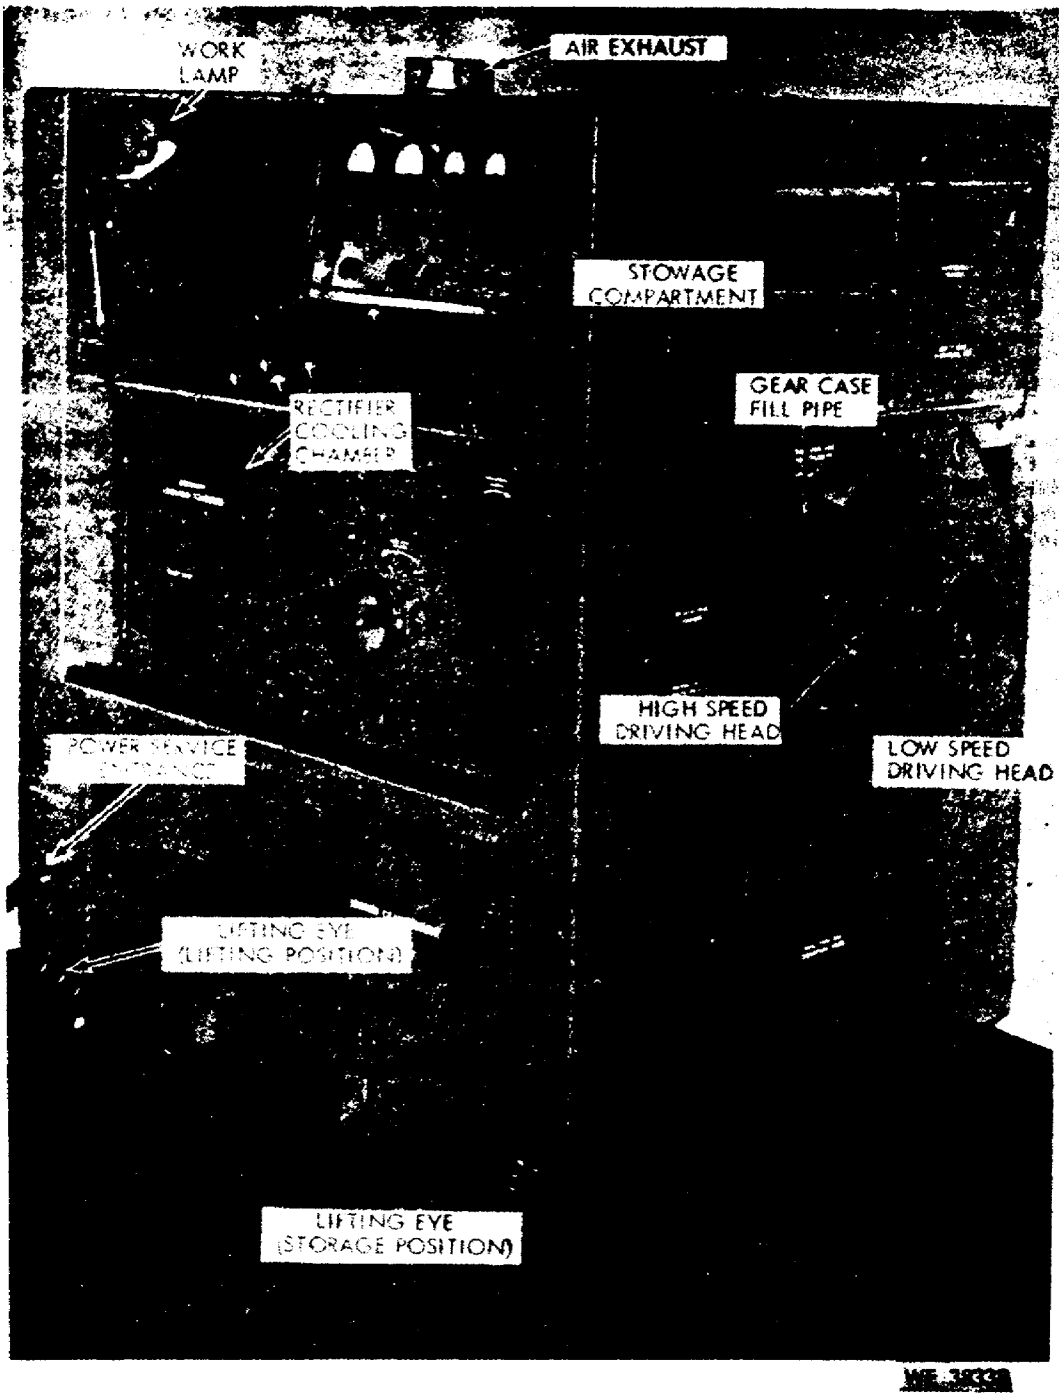
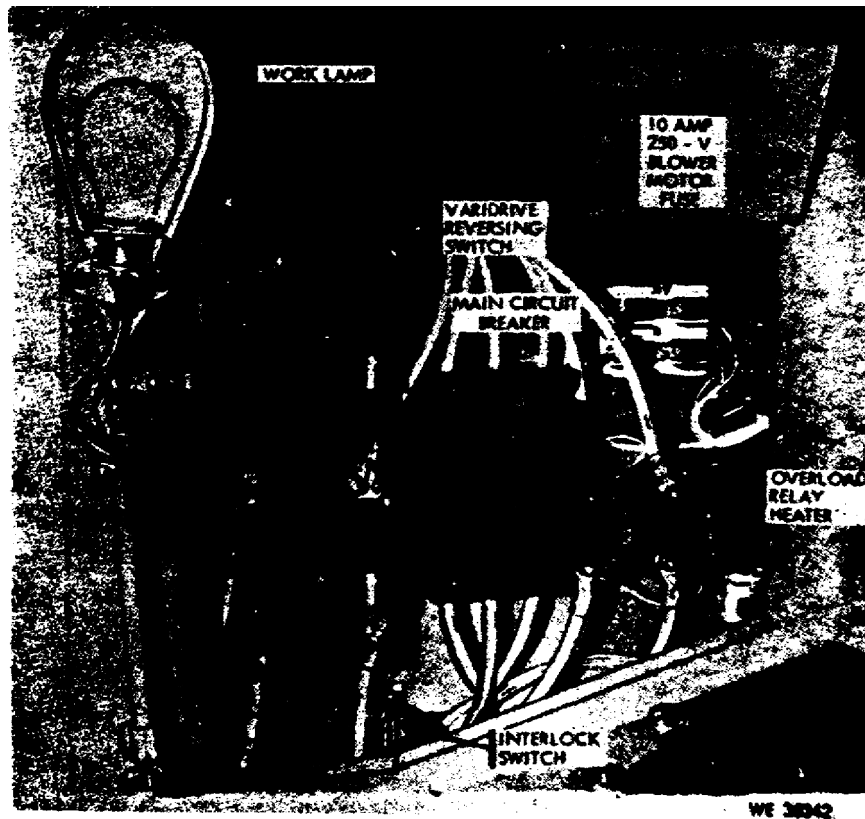

Figure 1. Test stand.
Figure 2. High voltage compartment.
a. Protruding through the high voltage panel there is a main circuit breaker switch that makes three-phase power available to the whole test stand. This panel can be seen in figure 1 next to the work lamp. Also, behind this panel is the varidrive reversing switch, which is a large dual knife switch to the left of the main circuit breaker. These components can be seen in figure 2.
b. To make power available to the varidrive place the circuit breaker to the ON position. This is indicated by the illumination of the "Power On" lamp. The high voltage compartment door must be tightly closed or the interlock switch (fig 2) will be open. If the interlock is open, it will prevent the varidrive assembly from operating.
(1) If for some reason there is no airflow for cooling, the varidrive unit will not remain in operation, indicating a malfunction.
(2) Holding the START button closed in excess of 30 seconds will cause the magnetic motor starter to overheat and damage the starter coil.
(1) Depress the STOP button to stop the varidrive assembly.
(2) Snap the main circuit breaker to the OFF position.
(3) Place the varidrive reversing switch (fig 2) into the opposite position.
(3) The engine generator, a 28-volt, three-phase, alternating current unit, has a rated output of 100 amperes and obtains full output at 2,000 generator RPM. The generator is self-cooled and utilizes a swivel-type mounting bracket. Bearings support the rotor shaft which is belt driven from the drive end of the shaft by a pulley.
c. 500-ampere test stand. The test stand (fig 1) has been designed so many different types of systems relating to vehicles can be tested. Once you learn the basic operation and functioning of the stand components many testing applications should become apparent. One of the first things to do in preparing for operation is to mount the generator or alternator to the test stand.
(1) Accessories. Foldout 1 shows the accessories used with the 500-ampere test stand. During operational conditions part of these accessories are usually fastened to the test stand. The rest are stored in the provided storage compartments. The accessories that remain more or less permanent are the mounting brackets and pivot arm. Each of these accessories is identified in foldout 2.